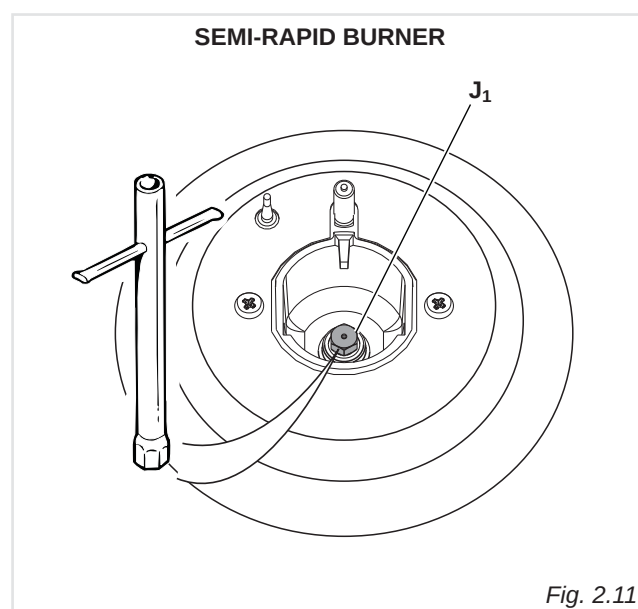

Fig. 2.11
- Using a wrench substitute the nozzle injectors "J₁", "J₂", "J₃" and "J₄" (figs. 2.11, 2.12, 2.13) with those most suitable for the kind of gas for which it is to be used.